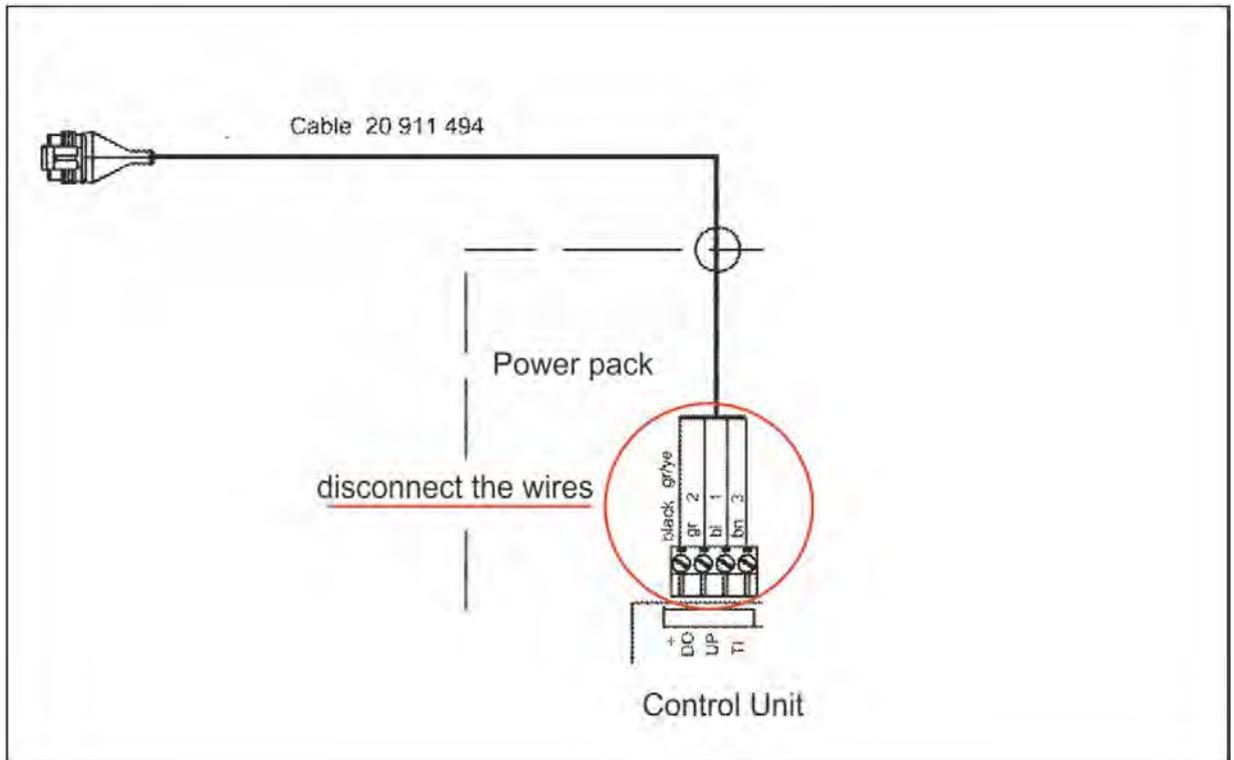

Figure 21
- The control unit is delivered with the wires already connected. Thus, to route the cable, disconnect the wires on the Control Unit (in the Power pack) as seen in Fig. 21.